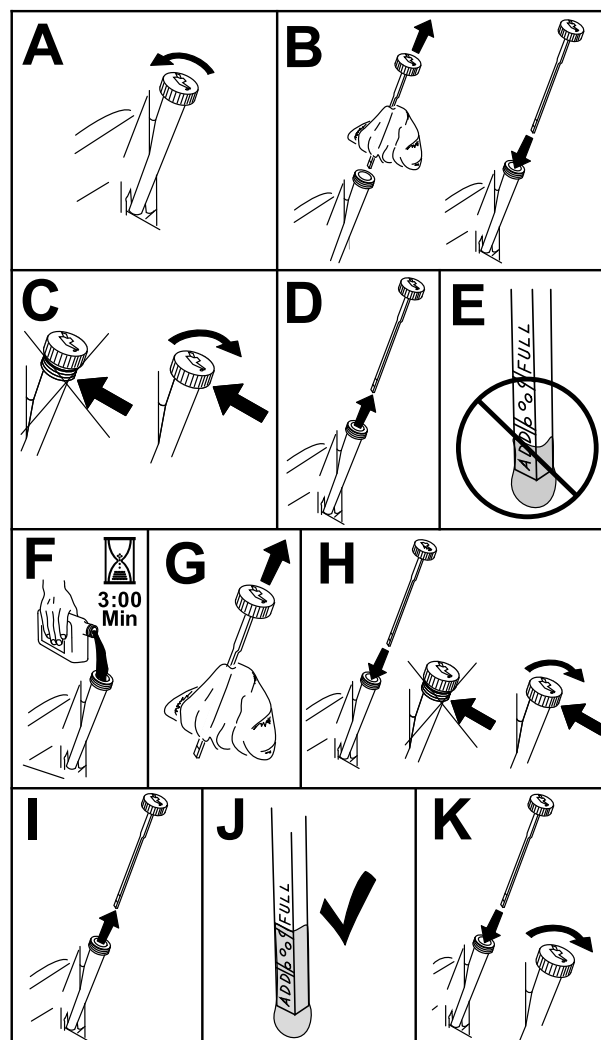

Figure 52
3. To keep dirt, grass clippings, etc., out of the engine, clean the area around the oil-fill cap and dipstick before removing it (Figure 52).